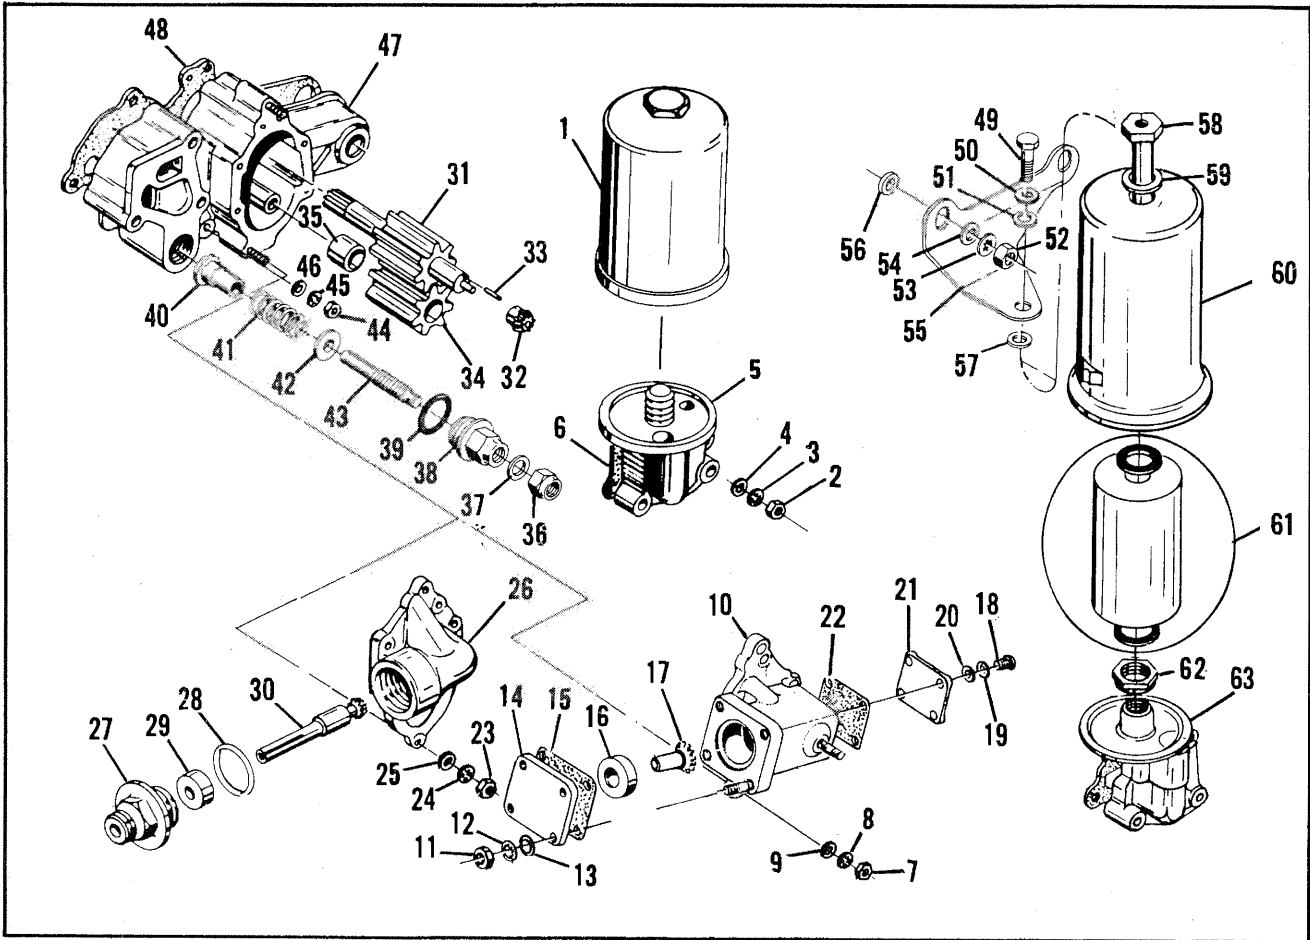
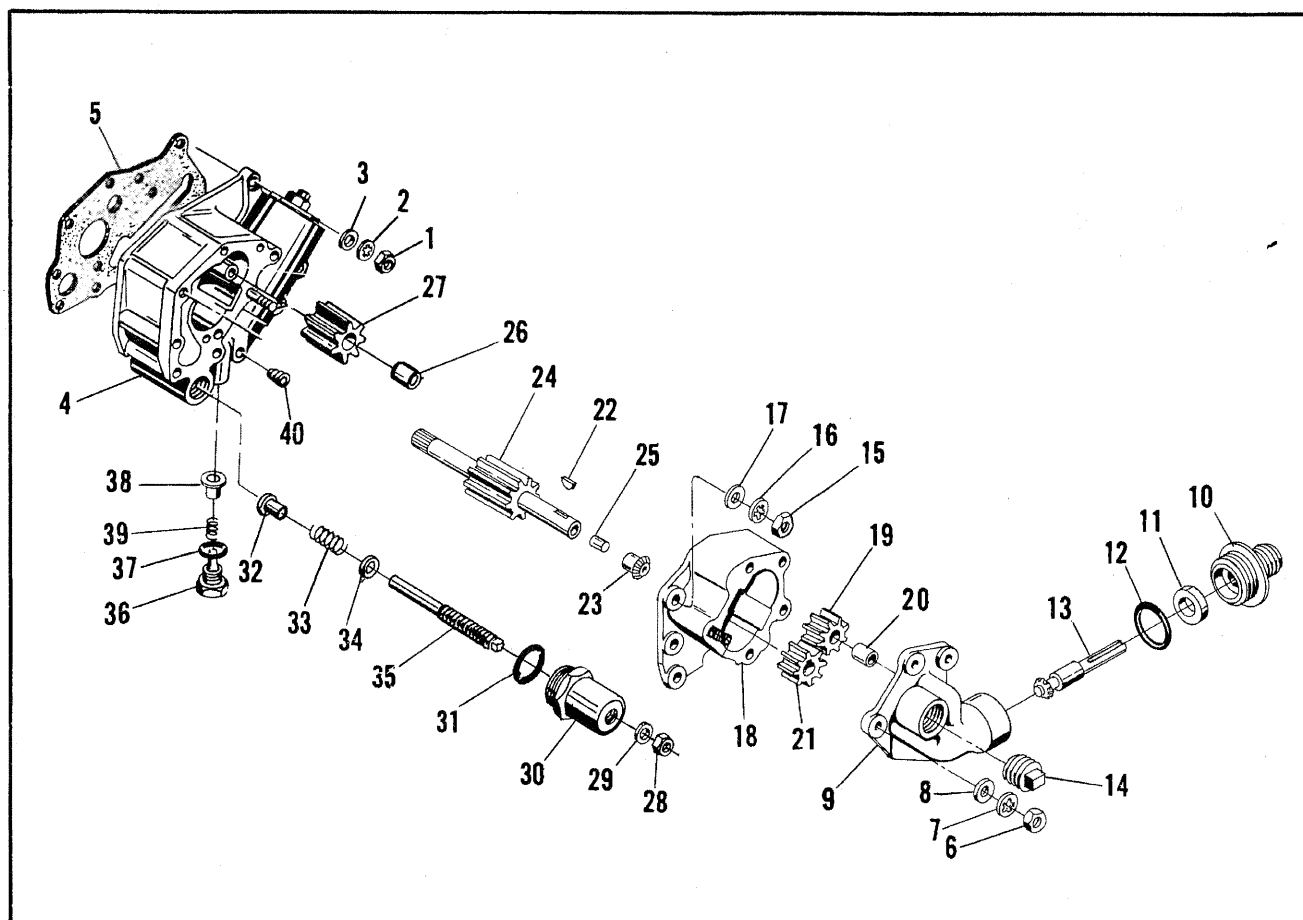

FIGURE 4-21. OIL PUMP ASSEMBLY, PERMOLD ENGINE.
FIGURE 4-22. OIL PUMP ASSEMBLY, SANDCAST ENGINE.
**4-29. OIL PUMP ASSEMBLY, PERMOLD ENGINE FULL FLOW TYPE FILTER (See Figure 4-21).**
- a. If electric tachometer (23 thru 30) is used, loosen tachometer housing (27) at this time. (Housing has a left-hand thread.)
- b. If electric tachometer is used, remove attaching parts (23,24,25) and separate cover (26) from oil pump housing (47). Remove tachometer drive housing (27), gasket (28), oil seal (29) and shaft-gear (30).
- c. Cut lockwire and remove filter (1). Remove attaching parts (2,3,4) and separate adapter (5) and gasket (6) from oil pump housing (47).
- d. Remove attaching parts (7,8,9) and lift off housing (10). Remove attaching parts (11,12,13) to remove cover (14) and gasket (15). Remove attaching parts (18,19,20) to remove cover (21) and gasket (22).
- e. Remove oil seal (16) and shaftgear (17) from cover (10).
- f. Lift out shaftgear assembly (31,32,33) and driven gear assembly (34,35) from oil pump housing (47).
- g. Remove oil pressure relief valve (36 thru 43) from oil pump housing (47).
- h. Remove attaching parts (44,45,46) and pull oil pump housing (47) from crankcase studs. Remove gasket (48).
**4-30. OIL PUMP ASSEMBLY, SANDCAST ENGINE (See Figure 4-22).**
- b. Loosen tachometer drive housing (10) to facilitate later removal. (Tachometer drive housing has a left-hand thread.) Remove ten sets of attaching parts (1,2,3) and pull pump assembly (4) to the rear. Remove gasket (5).